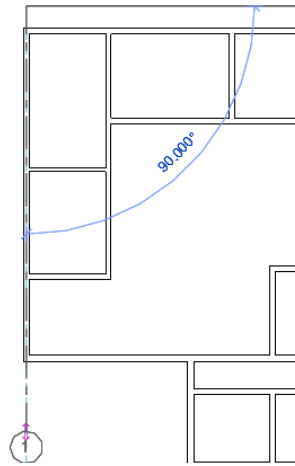

Figure 3-75 Specifying the grid line drawn at first point
5. Move the cursor vertically downward and click outside the south wall to specify the endpoint of the grid line, as shown in Figure 3-75.